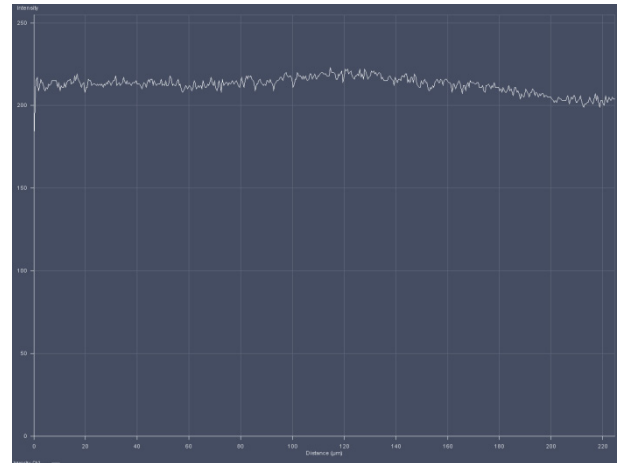

Fig. 311 Line diagram at lower cover slip surface
- Continue moving upwards slowly. The line position will reach its maximum (Fig. 311).